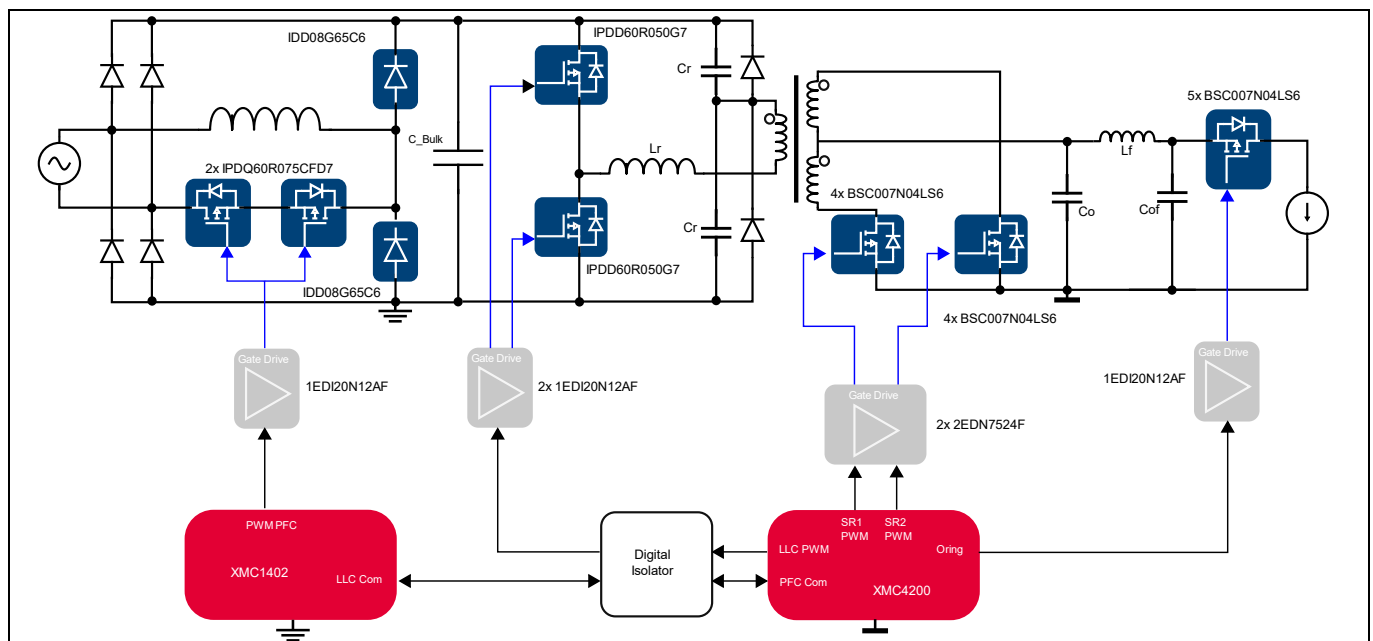

Figure 3 Simplified diagram of 1600 W Titanium server PSU with D-DPAK and Q-DPAK TSC (EVAL_1K6W_PSU_CFD7_QD) Infineon power semiconductors.
The EVAL_1K6W_PSU_CFD7_QD design consists of a bridgeless PFC with a bi-directional switch [8] as the AC-DC stage and a half-bridge LLC with Synchronous Rectification (SR) as the DC-DC stage (Figure 3). The power supply has been designed to comply with the requirements of a datacenter server operation.